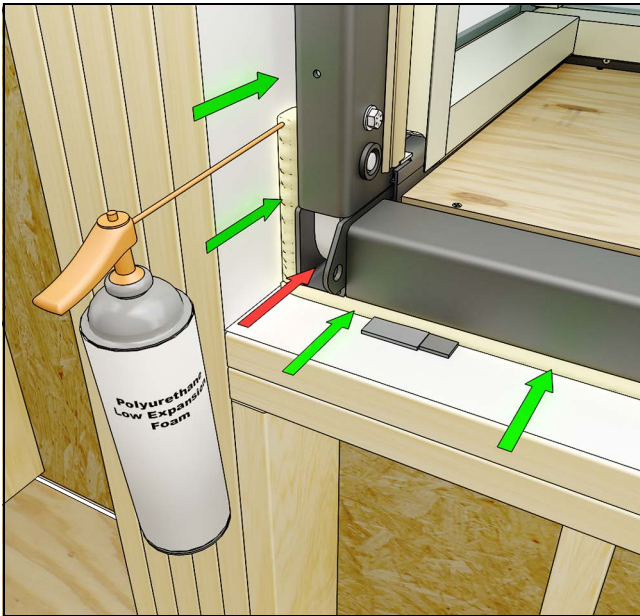

Figure 46
2. Seal between the steel upturned legs and the R.O. at both bottom corners by injecting low-expansion foam. Make sure expanding foam contacts exterior foam. See Figure 46. Note: Do not fill in the hollow of sill base as indicated by red arrow.
3. Apply sealant along sill, contact expanding foam on both side. See Figure 46. Note: Do not fill in the hollow of sill base as indicated by red arrow.